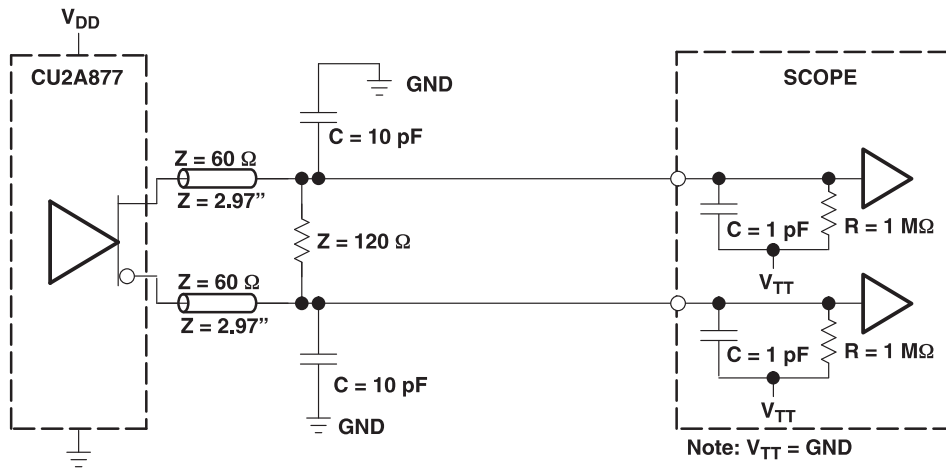
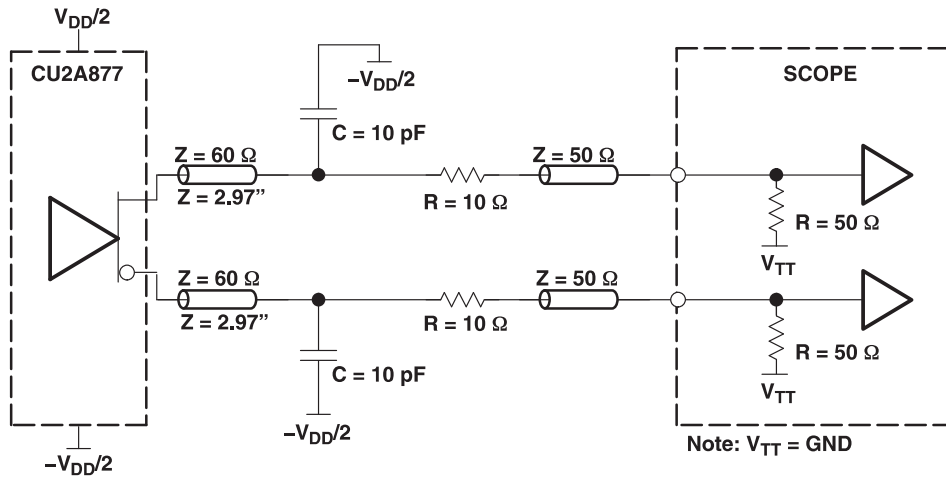
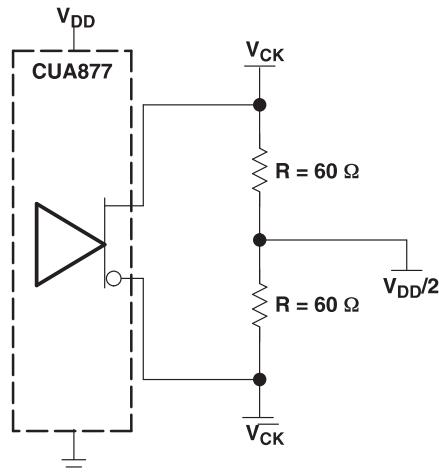

Figure 2. Output Load Test Circuit 1 (Using High-Impedance Probe)
Figure 3. Output Load Test Circuit 2 (Using SMA Coaxial Cable)
Figure 4. IBIS Model Output Load
- (1) The PLL is turned off and bypassed for test purposes when AV_{DD} is grounded. During this test mode, V_{DDQ} remains within the recommended operating conditions and no timing parameters are ensured.
- (2) V_{ID} is the magnitude of the difference between the input level on CK and the input level on \overline{CK} , see Figure 4 for definition. The CK and \overline{CK} V_{IH} and V_{IL} limits define the dc low and high levels for the logic detect state.
(1) V_{OD} is the magnitude of the difference between the true and complimentary outputs. See Figure 4 for a definition.
(2) Total $I_{DD} = I_{DDQ} + I_{ADD} = f_{CK} \times C_{PD} \times V_{DDQ}$, solving for $C_{PD} = (I_{DDQ} + I_{ADD}) / (f_{CK} \times V_{DDQ})$ where f_{CK} is the input frequency, V_{DDQ} is the power supply, and C_{PD} is the power dissipation capacitance.
- (1) There are two different terminations that are used with the following tests. The load/board in Figure 2 is used to measure the input and output differential-pair cross voltage only. The load/board in Figure 3 is used to measure all other tests. For consistency, equal length cables must be used.
- (2) This parameter is assured by design and characterization.
- (3) Phase static offset time does not include jitter.
- (4) For full frequency range of 160MHz to 410MHz.
- (5) Period jitter, half-period jitter specifications are separate specifications that must be met independently of each other.
- (6) In the frequency range of 271 MHz to 410 MHz, the minimum and maximum values of $t_{jit(per)}$ and $t_{(\phi)dyn}$ and the maximum value for $t_{sk(o)}$ must not exceed the corresponding minimum and maximum values of the 160 MHz to 270 MHz range. In addition, the sum of the specified values for $|t_{jit(per)}|$, $|t_{(\phi)dyn}|$, and $t_{sk(o)}$ must meet the requirements for the $\Sigma t_{(su)}$ and the sum of the specified values for $|t_{(\phi)dyn}|$ and $t_{sk(o)}$ must meet the requirements for the $\Sigma t_{(h)}$.
- (7) The output slew rate is determined from the IBIS model into the load shown in Figure 4.
- (8) To eliminate the impact of input slew rates on static phase offset, the input skew rates of reference clock input CK and \bar{CK} and feedback clock inputs FBIN and \bar{FBIN} are recommended to be nearly equal. The 2.5-V/ns skew rates are shown as a recommended target. Compliance with these typical values is not mandatory if it can adequately shown that alternative characteristics meet the requirements of the registered DDR2 DIMM application.
- (9) Output differential-pair cross voltage specified at the DRAM clock input or the test load.